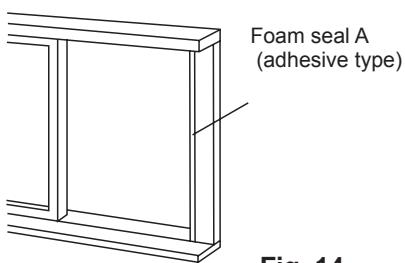

Fig. 14
1. Cut the foam seal (adhesive type) to the proper length and attach it to the window frame. See Fig.14.